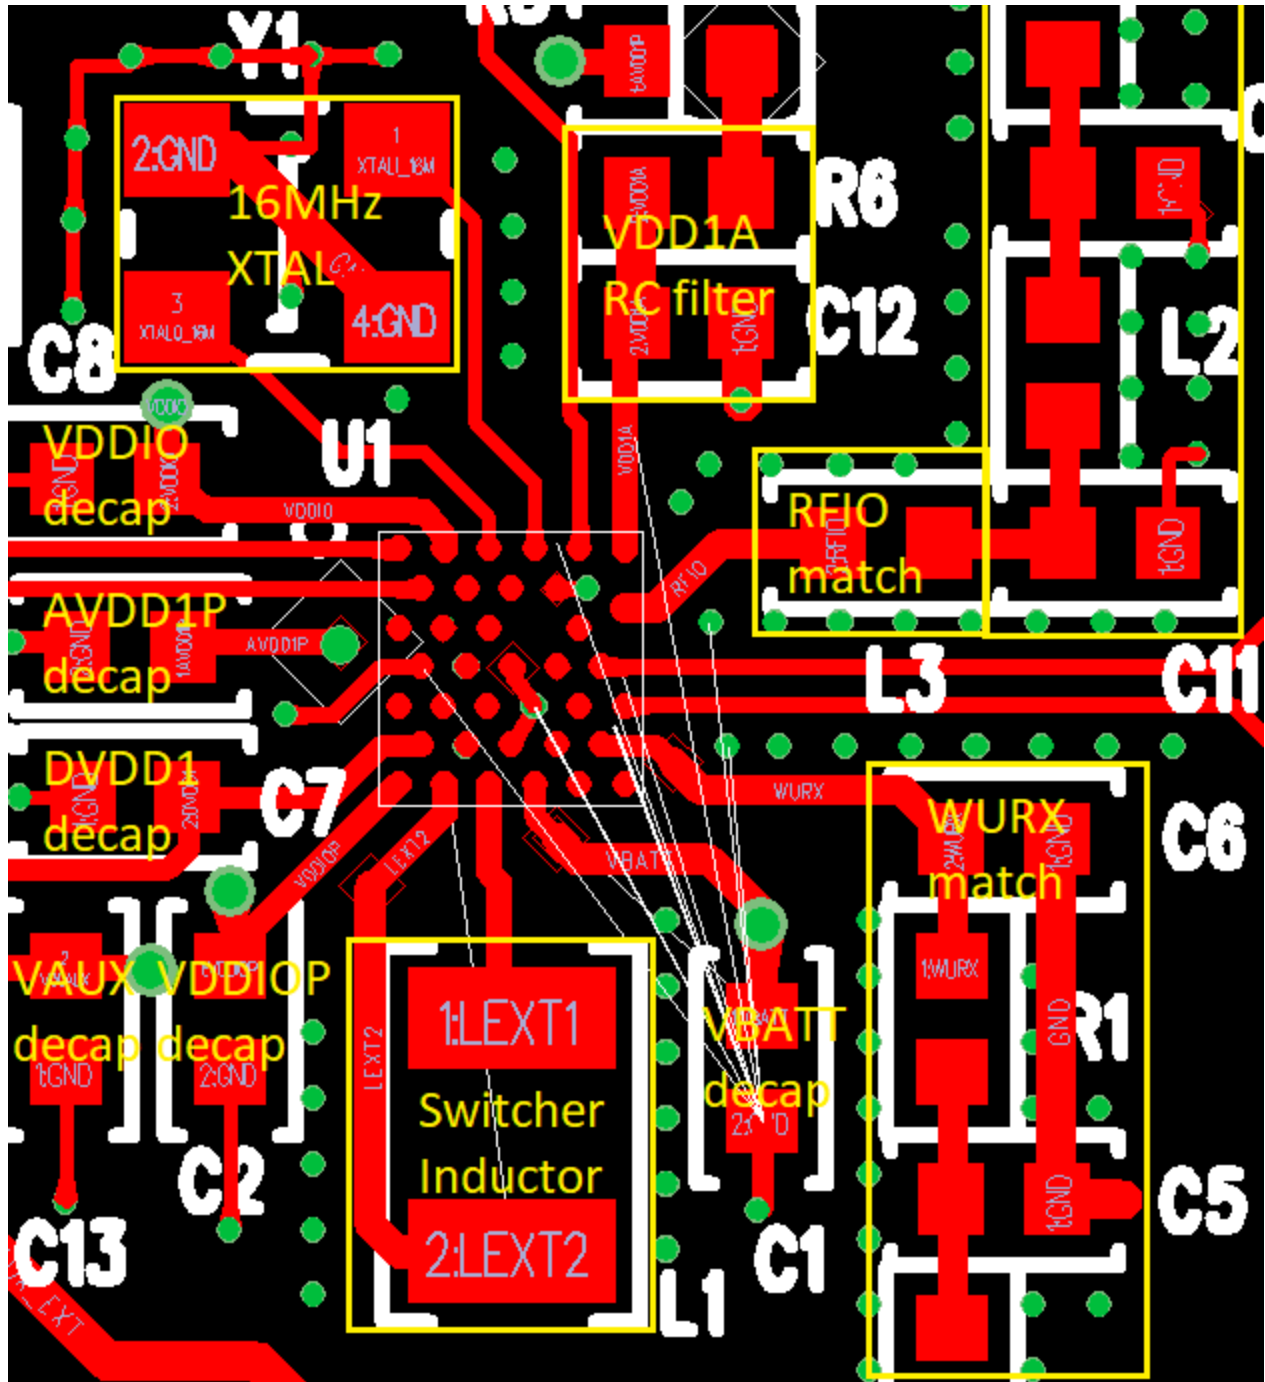

Figure 13 - Power Traces Same Layer Routing Example
- It is recommended to route as many outer-row bumps/pads on the same layer (i.e., try avoiding via) as the ATM2251 - these particularly apply to power traces (such as LEXT1|2, VBATT, VDD1A, VDDIOP & VDDIO, DVDD1), the 16 MHz XTAL traces, and the RF traces (RFIO and WuRX (if applicable)). An example illustration is shown below in Figure 13.